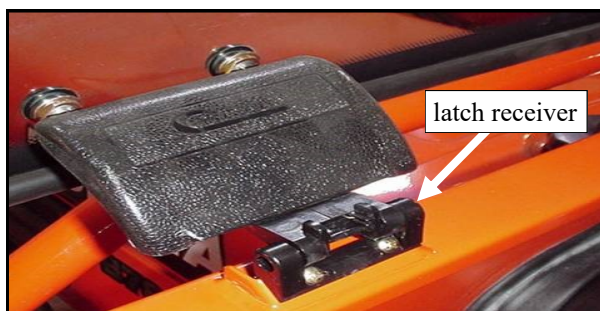

Fig. 9.2 (view from left rear side of tractor)
9.2 See fig. 9.2. Lift up on the bottom of the windshield and close the latches. Check the alignment of the windshield with the side frames and tighten the hinge hardware. **CAUTION: hinges are plastic components with countersunk holes. Do not overtighten hardware. Torque to 7 foot-pounds max..**